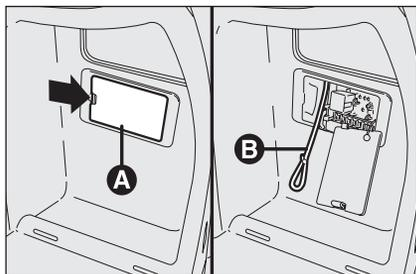

fig. 26
- open the fuse box lid **A**-fig. 26 on the right side of the boot as shown by the arrow;